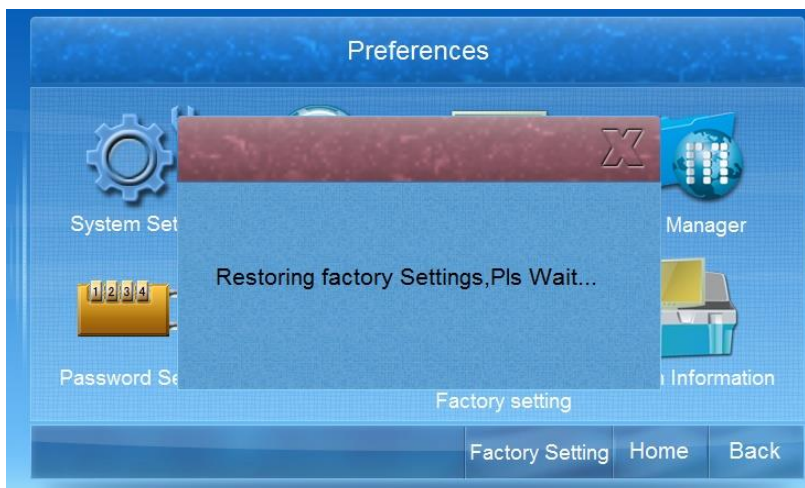

Figure 4-21 Perform “recover to factory setting”
Step 5 After clicking “OK”, it will perform the operation of restore to factory setting, as shown in Figure 4-21.